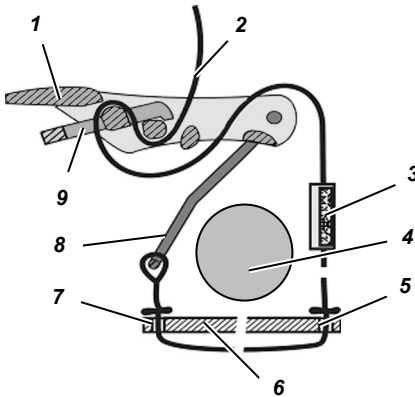

Fig. 33 Long Cylinder Strap
- (1) Thread the cylinder strap (→ Fig. 33) firstly through the slot in the back plate (on the right hand side of the equipment carrier), then through the left hand slot in the back plate and then through the cylinder bracket - align the cylinder bracket vertically.
- (2) Push the Velcro strap onto the cylinder strap with the fluffy side facing outwards